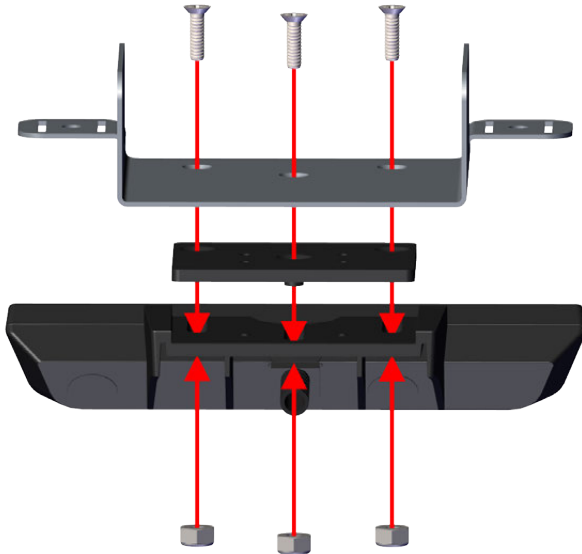

Fig. 14: Mount new memory control pad to bracket.
1. Position the replacement Memory Control Pad on the mounting plate. Align the three holes in the control panel with holes in mounting plate and reinstall bolts and nuts (Fig.14).